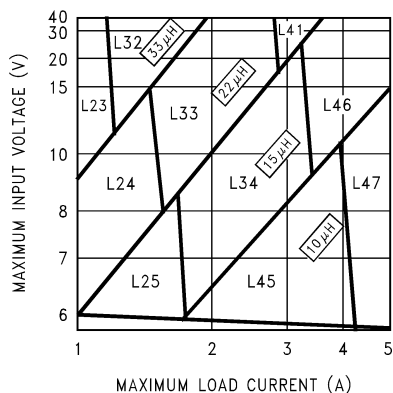
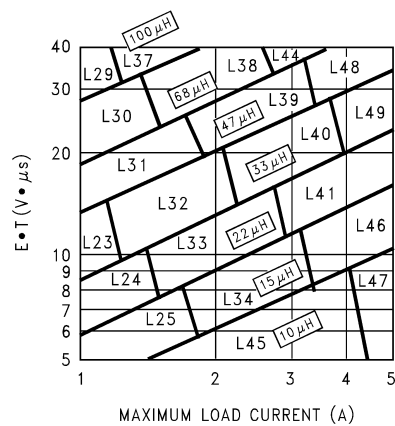

Figure 18. LM2679-3.3
Figure 21. LM2679-ADJ
Step 3: Determine the inductor required by using one of the four nomographs, Figure 18 through Figure 21. Table 1 provides a specific manufacturer and part number for the inductor.
Step 5: Determine an input capacitor from Table 8 and Table 9 for fixed output voltage applications. Use Table 3 and Table 4 to find the specific capacitor type. For adjustable output circuits select a capacitor from Table 3 and Table 4 with a sufficient working voltage (WV) rating greater than $V_{in\ max}$, and an rms current rating greater than one-half the maximum load current (2 or more capacitors in parallel may be required).
Step 3: Use the nomograph for the 3.3V device, Figure 18. The intersection of the 16V horizontal line ($V_{in\ max}$) and the 4A vertical line ($I_{load\ max}$) indicates that L46, a 15 μ H inductor, is required.
Step 3: To use the nomograph for the adjustable device, Figure 21, requires a calculation of the inductor Volt•microsecond constant ($E \cdot T$ expressed in $V \cdot \mu s$) from the following formula:
Using Figure 21, the intersection of 27V• μs horizontally and the 3.5A vertical line ($I_{load\ max}$) indicates that L48, a 47 μH inductor, or L49, a 33 μH inductor could be used. Either inductor will be suitable, but for this example selecting the larger inductance will result in lower ripple current.
When using the adjustable device in low voltage applications (less than 3V output), if the nomograph, Figure 21, selects an inductance of 22μH or less, Table 12 and Table 13 do not provide an output capacitor solution. With these conditions the number of output capacitors required for stable operation becomes impractical. It is recommended to use either a 33μH or 47μH inductor and the output capacitors from Table 12 and Table 13.